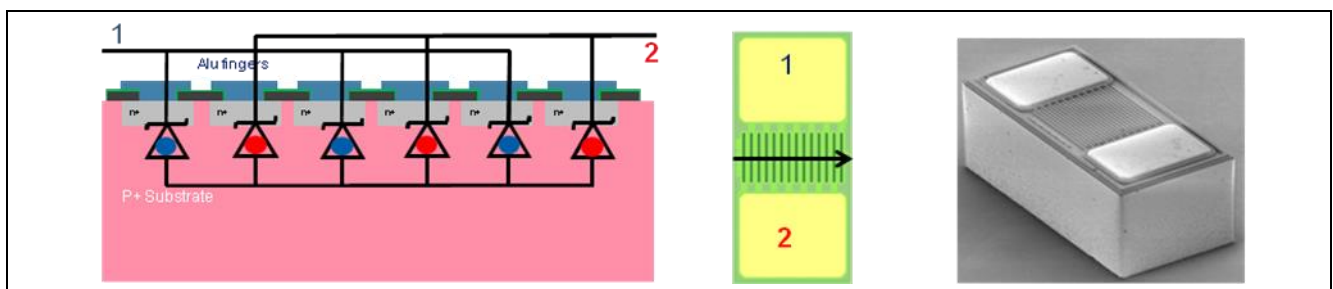

Figure 4 Internal structure of ESD200-B1-CSP0201 / ESD202-B1-CSP01005 (lateral ESD diode design)
**ESD200-B1-CSP0201** structure is shown in Figure 4. This device is realized in Chip Scale Package (CSP) technology. An advanced technology with performance-optimized chip structure and without bond wires guarantees **very low series inductivity** of the device. In turn, the **initial overshoot is drastically reduced** (compare Figure 5 and Figure 6).